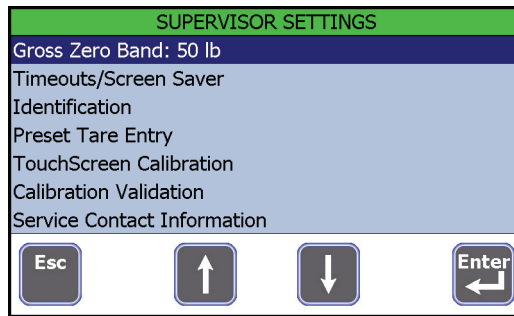

Figure 7.3 Supervisor Settings list
4. Highlight the **Supervisor Settings** item and press the **Enter** key. The screen shown in Figure 7.3 is displayed.